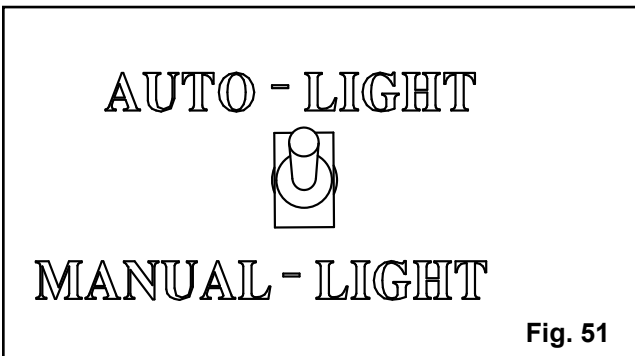

Fig. 51
6. **Flip the Igniter Switch up** into the "AUTO-LIGHT" position, Fig 51.